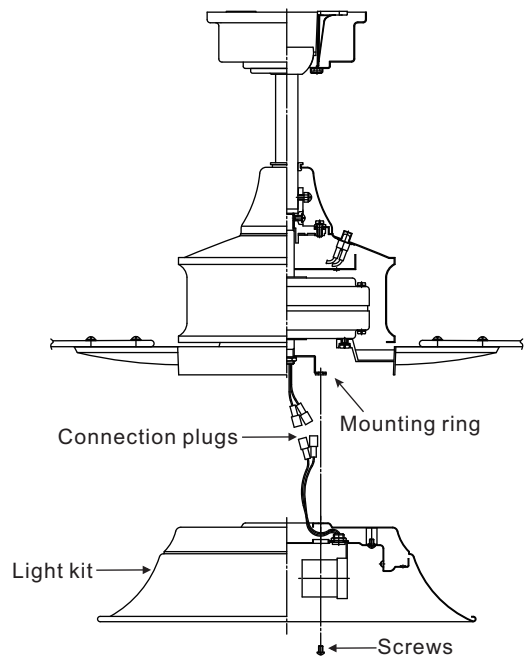

Figure 15
Step 1. Remove the 1 of 3 screws from the mounting ring and keep it for future use. Loosen the other 2 screws (Do not remove) (Fig. 15)